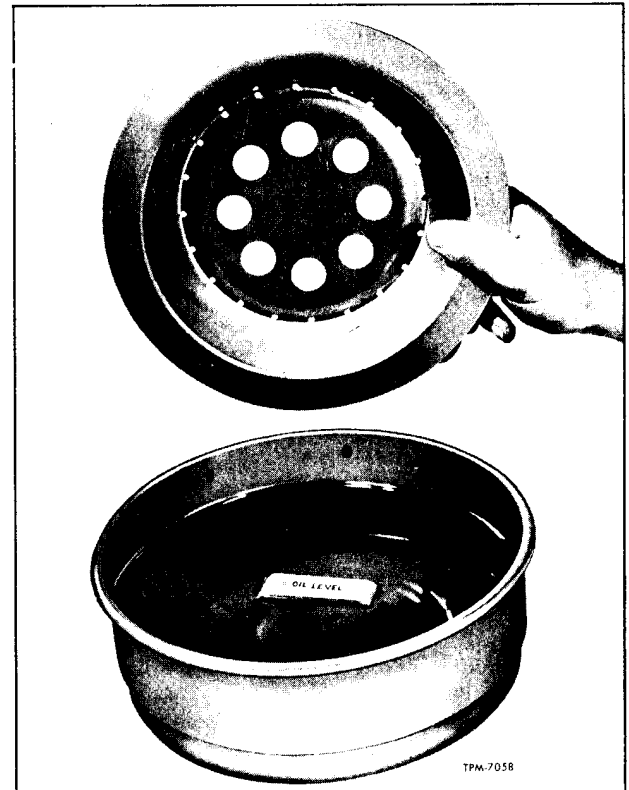

Figure 2—Oil Level in Air Cleaner Reservoir
6. Fill reservoir up to "OIL LEVEL" mark on bracket at center of reservoir (fig. 2) using same grade of oil as used in engine. Install oil baffle at center of reservoir.